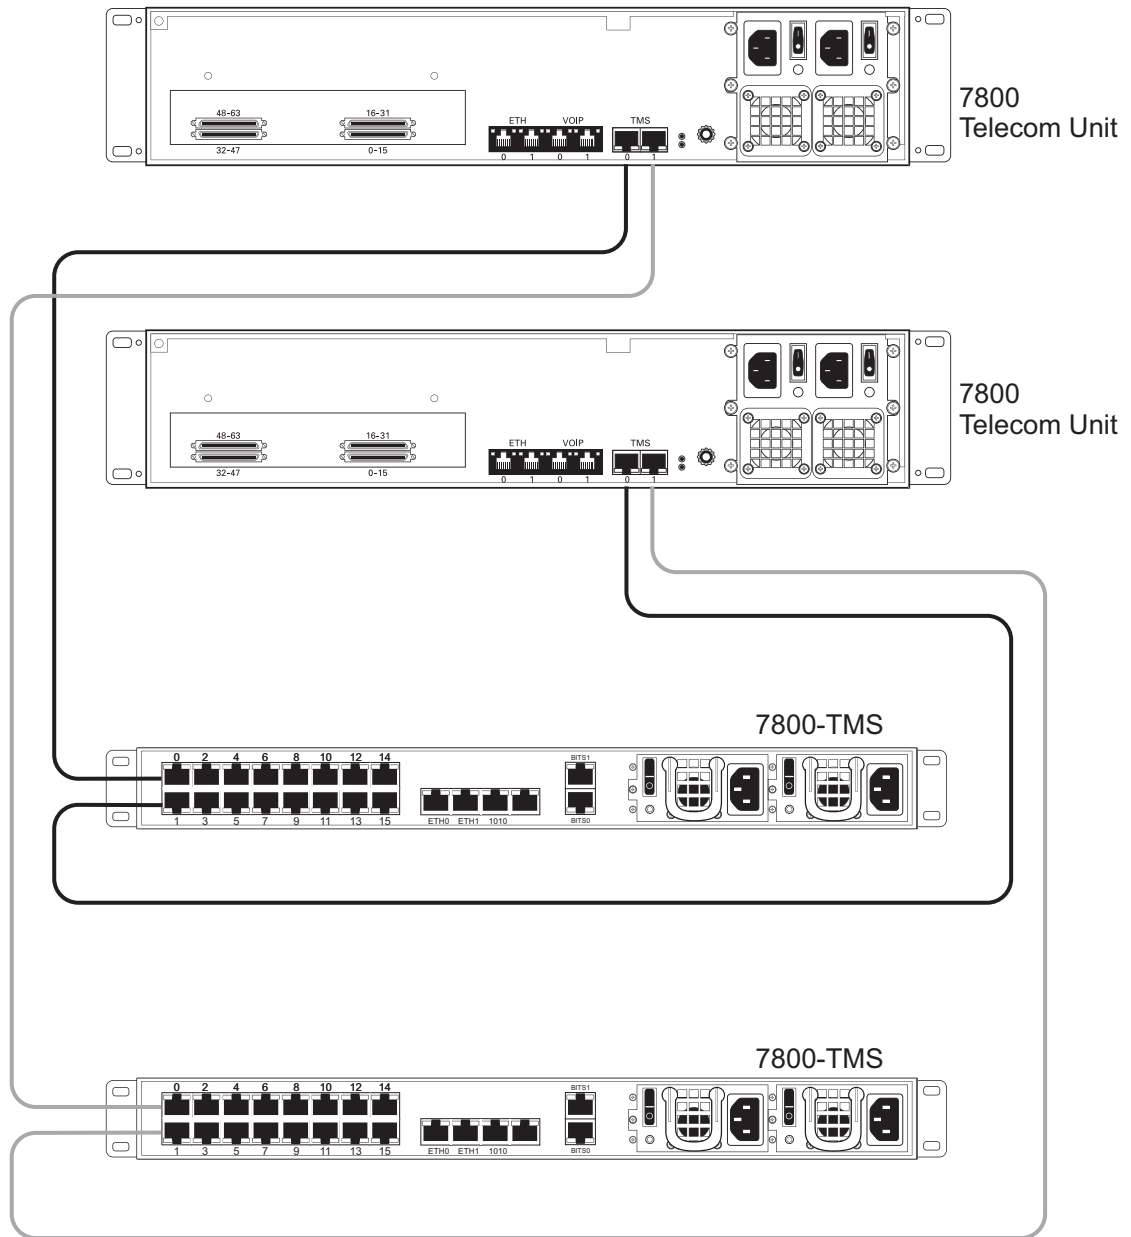

Figure 4.7 Interconnecting Two 7800 Telecom Units to an active and standby 7800-TMS
1. Start with the 7800 Telecom Unit at the topmost position of the equipment rack and connect a CAT7 shielded Ethernet crossover cable to the TMS0 connector at the rear of the 7800 Telecom Unit, figure 4.7 on page 37. Connect the other end of the same CAT7 cable to the first port of the first 7800-TMS.
2. If your system employs a second 7800-TMS, connect a second CAT7 shielded Ethernet crossover cable to TMS1 at the rear of the TMG7800 Telecom Unit, figure 4.7 on page 37. Connect the other end of the same CAT7 cable to the first port of a second 7800-TMS.